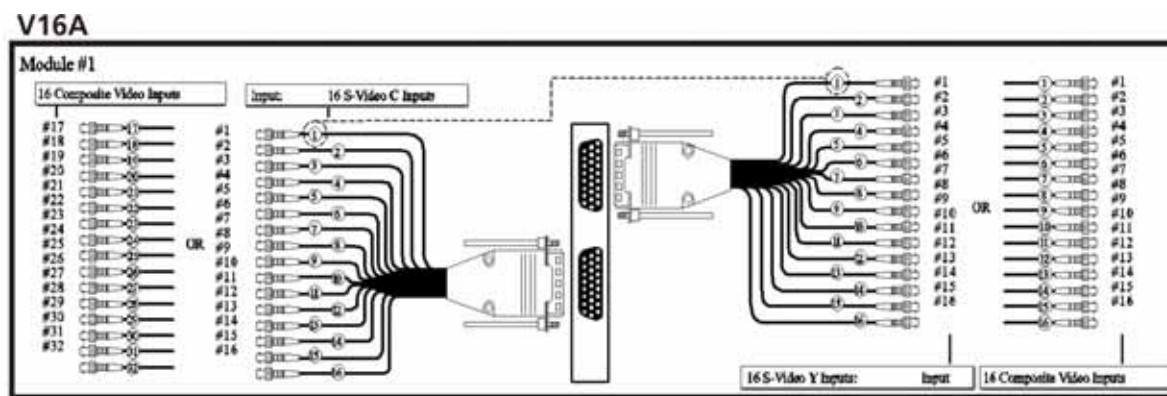

FIGURE 3-8 V16A CONNECTIONS
The V16A module (16-input) is installed into the controller to allow connection of S-video, composite sources, or both. A single V16A module has 16 built-in decoders. Each decoder has 2 inputs, which are the corresponding inputs from the top connector (A) and the bottom connector (B). Composite video can be connected to any of the available BNC inputs. To hook up S-video, connect Y (Luma) to the "A" input and C (Chroma) to the corresponding "B" input. Refer to **Figure 3-8**.